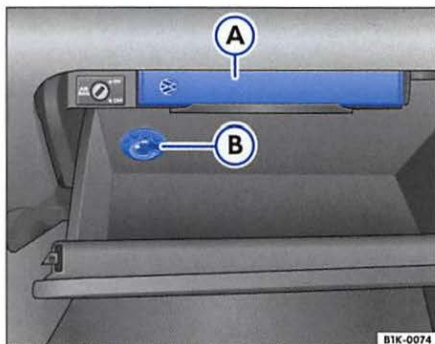

Fig. 60 Passenger's side: open compartment with vehicle literature (A) and air vent (B).
The vehicle literature ⇒ fig. 60 (A) is kept in the upper storage. The vehicle literature should always be kept in this compartment.